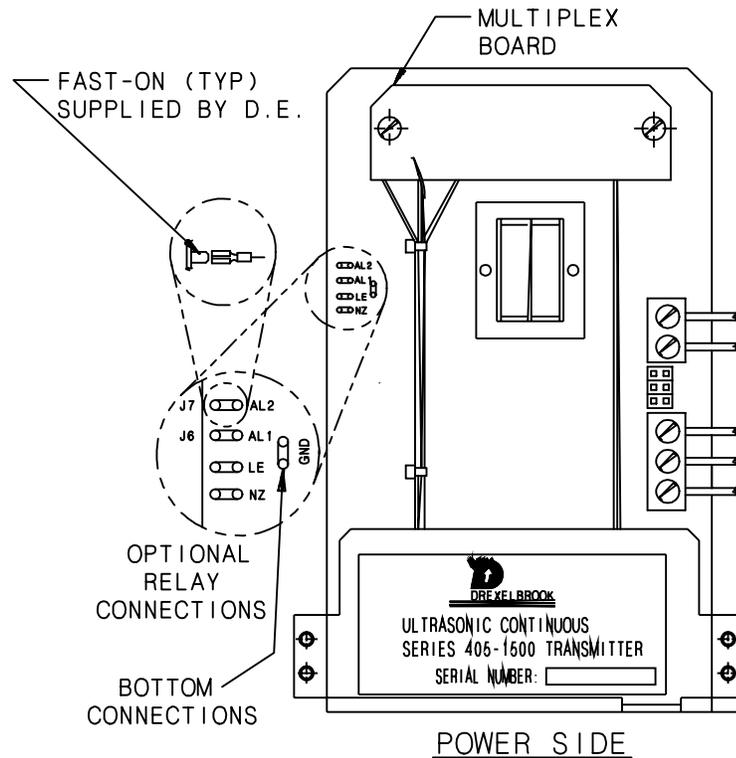

Figure 4-3
- Connections are made to the transmitter on jumpers J6, J7 and common connection as shown in *Figure 4-3*.